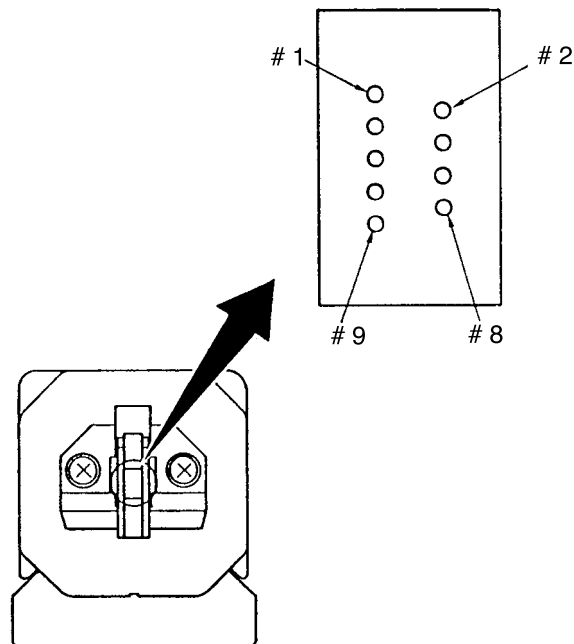

Figure 2.1 Printhead pin arrangement
2.2.3 Printhead mechanism and operation (See Figures 2.1 and 2.2)